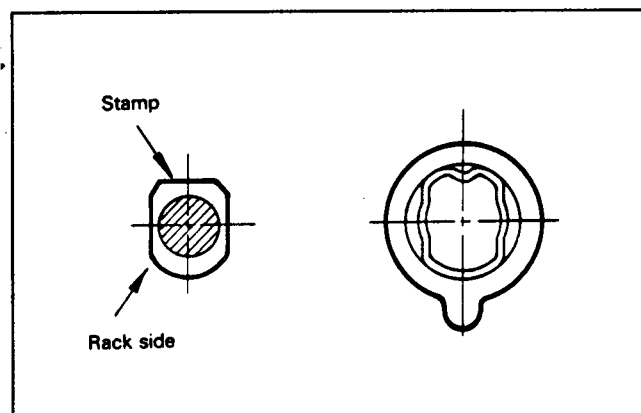

Figure 63
5. Fit the lower seat to the plunger. Insert the plunger into the barrel (Fig. 63).